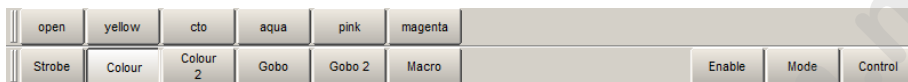

Figure 15.7. The Colour Slots Toolbar for a Studio Spot 575
2. Click on the required parameter, and an additional toolbar will open showing the available slot positions; see *Figure 15.7, “The Colour Slots Toolbar for a Studio Spot 575”*.